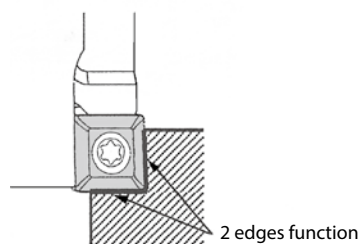

Fig. 1
- Both edges wear at the same time depending on ap . The insert uses 2 edges instead of 4. (Fig. 1)